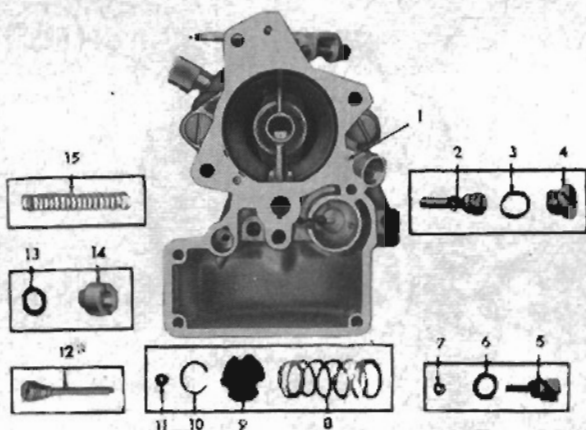

FIG. 31
Main Body—To disassemble the main carburetor body (1, Fig. 31), remove the vacuum piston spring (15) and accelerating pump spring (8). Then remove the accelerating pump strainer (9) and, using Retainer Ring Remover J-1306, remove the accelerating pump inlet check ball retainer ring (10). Turn the carburetor body upside down to remove the inlet check ball (11).
Main Body—Using Jet Wrench J-816-6, install the metering rod jet (14, Fig. 31) and new gasket (13); and using Jet Wrench J-816-1, install the low speed jet (12).